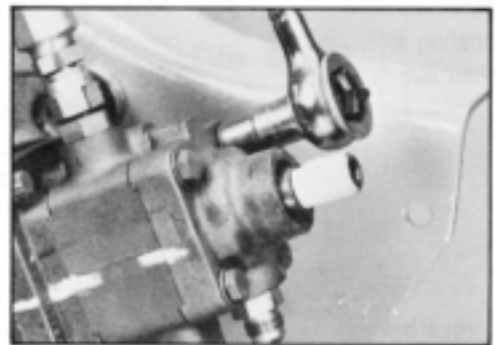

Figure 28
- 3.3 Remove four upper cover bolts (6) and washers (6A). SEE FIGURE 28. 9/16 inch socket required.